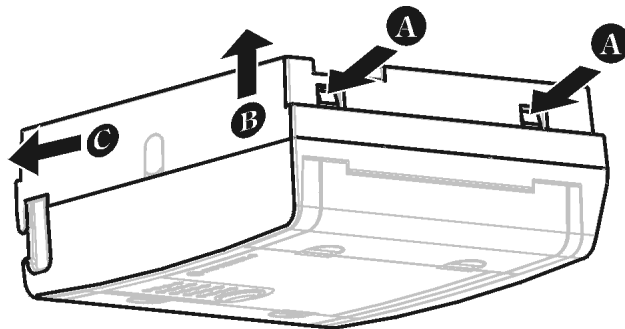

Figure 24
Turn the unit upside down, so that the rightmost wing is closer to you. Using both thumbs, press the two tabs (A) at the bottom of the unit, as shown in Figure 24, to release the back of the case. Lift the cover (B) and push forward slightly (C), to release the cover from the top tabs.